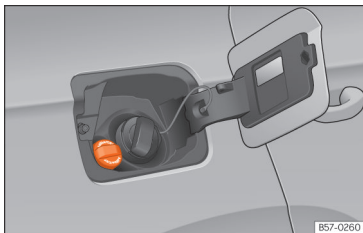

Fig. 205 AdBlue tank cap.
- Open the tank cover >>> Fig. 205.
- Turn the SCR tank cap anti-clockwise >>> Fig. 205.